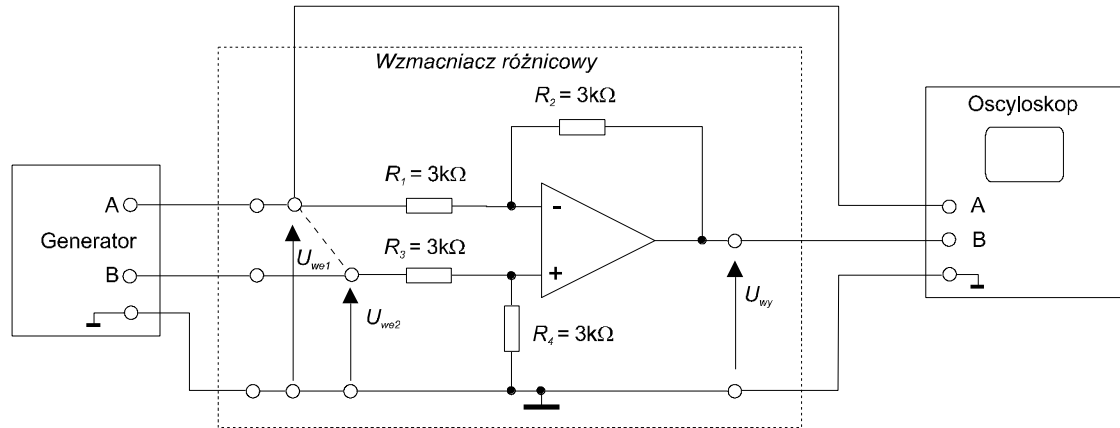

Fig. 9.3.7. System for testing the differential system.
- Connect the measuring system from fig. 9.3.7 where. $R_1 = R_2 = R_3 = R_4 = 3 \text{ k}\Omega$. Redraw the differential circuit diagram. At the input of the system, give two sinusoidal signals with frequency from the generator $f = 1 \text{ kHz}$ and amplitudes $U_{we1} = 0.1 \text{ V}$ i $U_{we2} = 0.2 \text{ V}$.